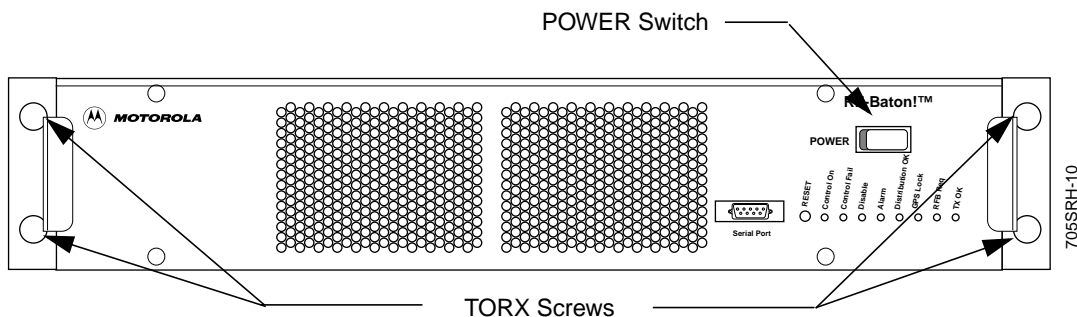

Figure 6-4: RF-B! Transmitter Controller Front Panel
2. Set the RF-B! transmitter controller POWER switch to OFF (O) (see Figure 6-4).
5. From the front of the cabinet, remove and retain the four #30 TORX screws securing the RF-B! transmitter controller chassis to the cabinet (see Figure 6-4).
4. From the front of the cabinet, set the RF-B! transmitter controller POWER switch to ON (|) (see Figure 6-4).